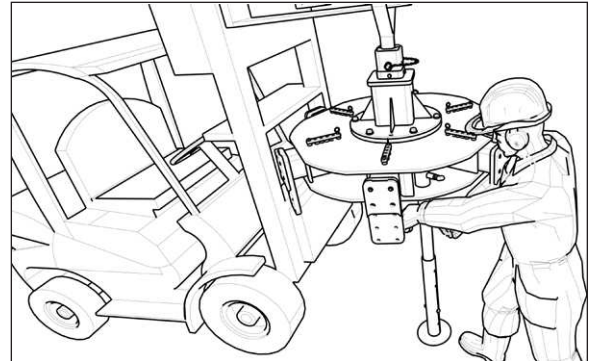

Figure 8. Attaching Supporting Legs To Six Shooter
8. While the Six Shooter remains suspended, attach the Supporting Legs. See Figure 8.